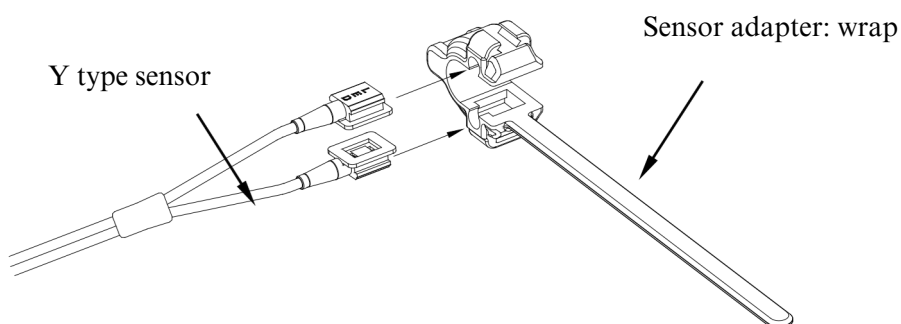

Figure 3.10 Neonate SpO2 sensor placement
3. If the neonate SpO₂ sensor is used, please follow Figure 3.10 to connect.